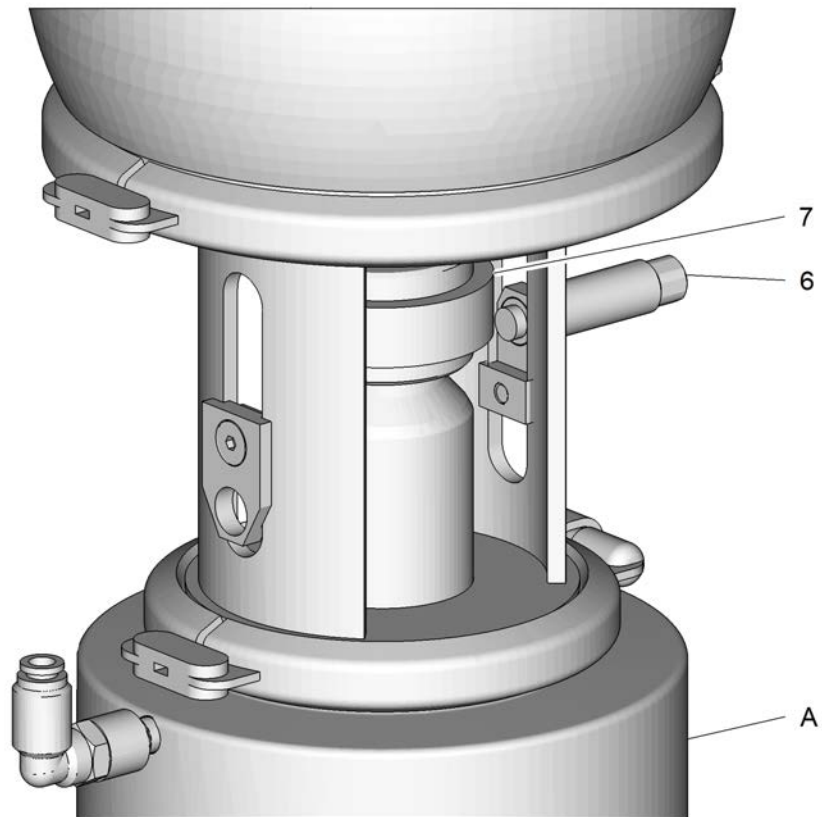

Fig.63
2. Position the proximity switch holder by slightly loosening the countersunk screw in the lantern recess in such a way that the tip of the adjusting mandrel (6) is resting on the collar of the leakage indicator (7) facing the drive (A), see Figure 63.
3. Tighten the proximity switch holder with the countersunk screw (3).